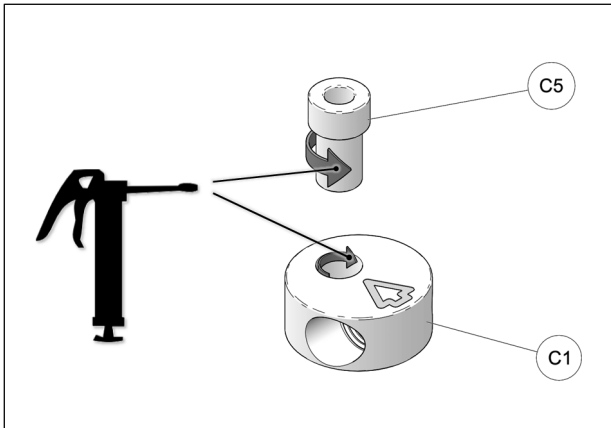

Fig. 16
- Apply grease evenly all around step spacer bushing (C5) and in hole of aluminum disk (C1) when assembling these parts together. See Fig. 16